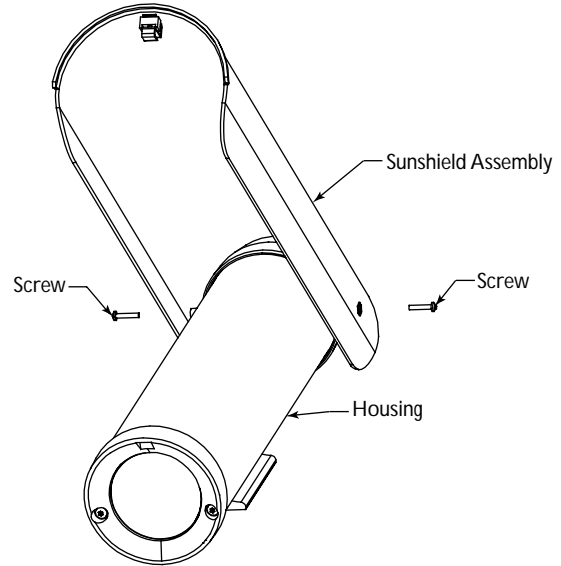

Figure 2: Installing Sunshield
2. Insert the 16 mm long screws into the sunshield and screw them into the rear cap. Do not tighten screws. **See Figure 2.**